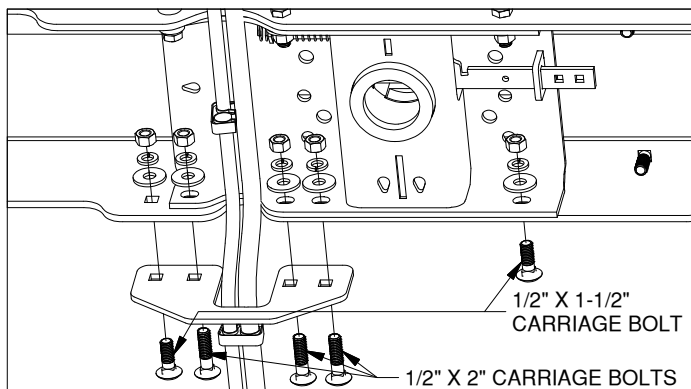

Figure C7: View looking under center section.
6. **Attach the rear cross member.** Retrieve the cross member support, two 1/2" x 1-1/2" carriage bolts, three 1/2" x 2" carriage bolts, five 1/2" flat washers, five 1/2" split lock washers, and five 1/2" finish nuts. Move the top flange of the rear cross member over the center section. The lifting device may need to be temporarily lowered. Attach the cross member support to the rear cross member using three 1/2" x 2" carriage bolts as shown in Figure C7. Use the 1/2" x 1-1/2" carriage bolts in the two remaining holes in the center. Use a flat washer, lock washer, and nut to secure the bolts. Do not fully tighten hardware at this time.